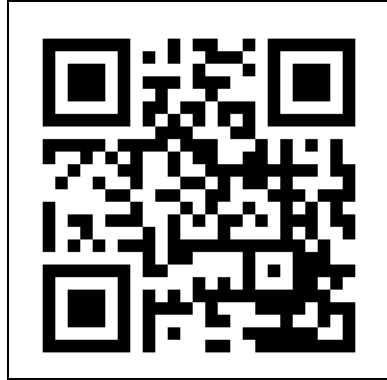

Figure 17
1. Open the Eurom Smart app manual with the QR code (Figure 17) or go to [www.eurom.nl/nl/manuals](http://www.eurom.nl/nl/manuals).